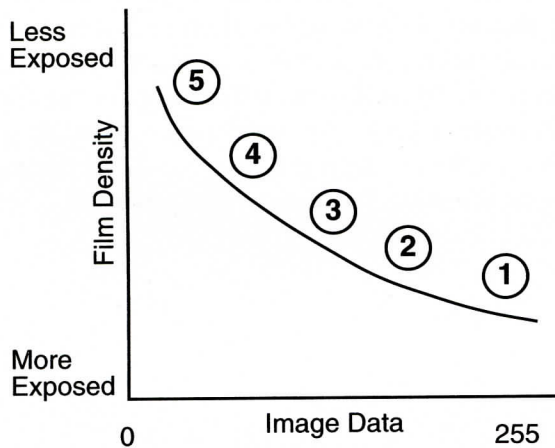

Figure 8.1 Film Recorder Input/Output Response
**Input/Output Response:** Figure 8.1 is a curve that shows a generic response of the film recorder. This curve is only conceptual and will be used to show the effect of the various exposure table settings on film. Actual values of density achieved will strongly depend on the film type being used.